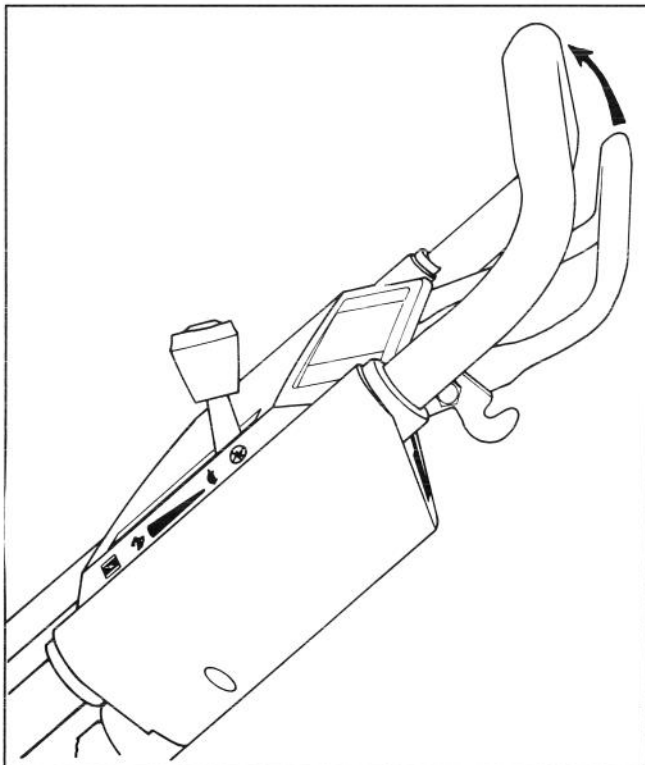

Figure 10
5. WHEEL TRACTION OPERATION (self-propelled model) (Fig. 10)—To self-propel the mower, squeeze the control bar against the handle. To stop the self-propel drive, release the control bar.